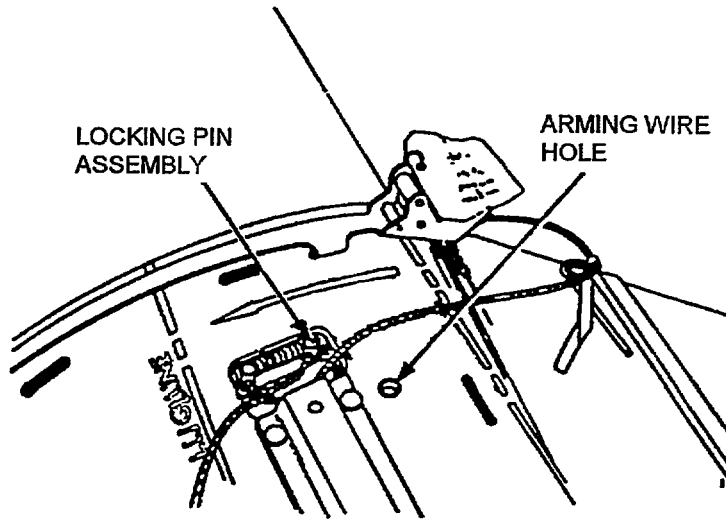

Figure 4-11F. Locking Pin Installation
- n. Insert locking pin assembly into bomb fin adapter holes ensuring chain does not pass over fin release lanyard (Figure 4-11F). Using an insert face hammer, drive pins in until they bottom. For alternate locking pin 3132254, install only until the C-ring bottoms against ADU-320A/B.